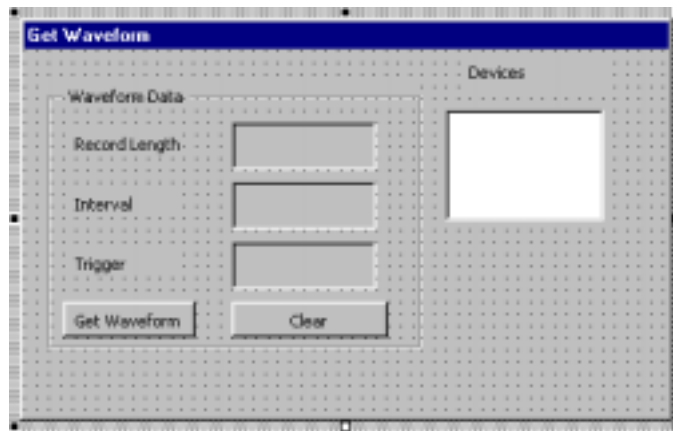

Figure 13: The redesigned form for Get Waveform
7. Change the rest of the captions and sizes for controls as shown in Table 7 so that the form looks like Figure 13.